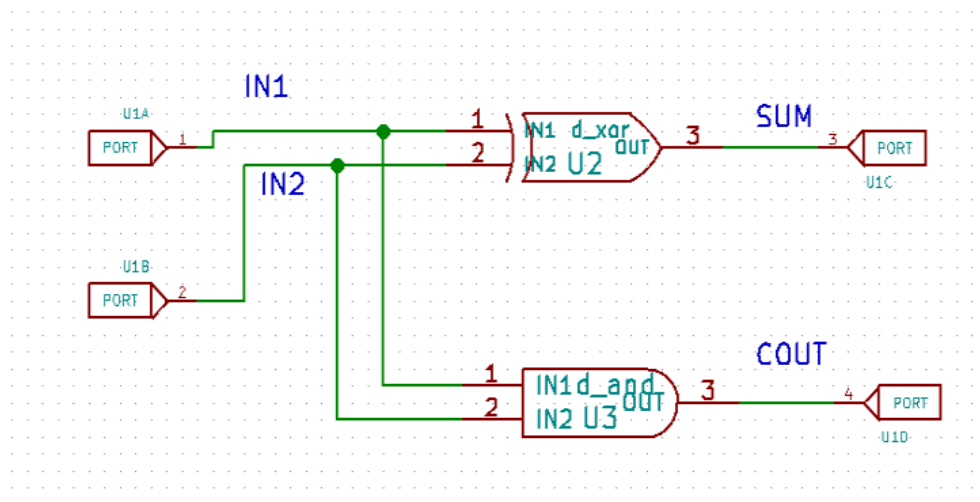
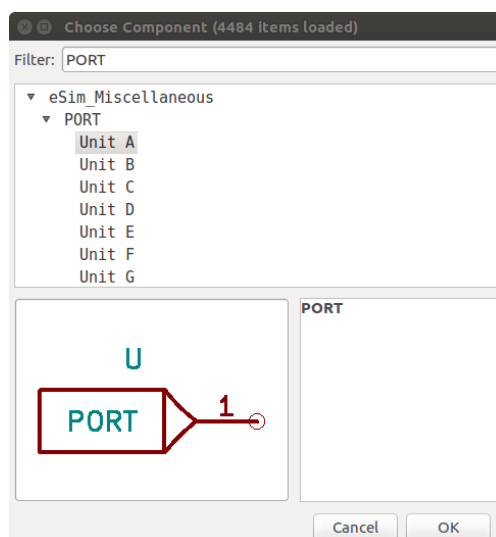

Figure 8.4: Half-Adder Subcircuit
Figure 8.5: Selection of PORT component
the number of input and output pin. The circuit will look like Fig. 8.4 after adding PORT to it. The PORT component can be found in the eSim.Miscellaneous library as shown in Fig. 8.5. Select a different port for each node (input or output), the PORT has 26 such components named alphabetically as Unit A, Unit B to Unit Z, meaning you can create a subcircuit up-to 26 pins(input, output combined).
1. A **.sub** file is nothing but textual representation that is passed to the simulator which essentially informs the simulator about the nodes, and behavior of the subcircuit block. Remember the Fig. 8.4 circuit? It will be saved in a **.sub** file once we complete this process!